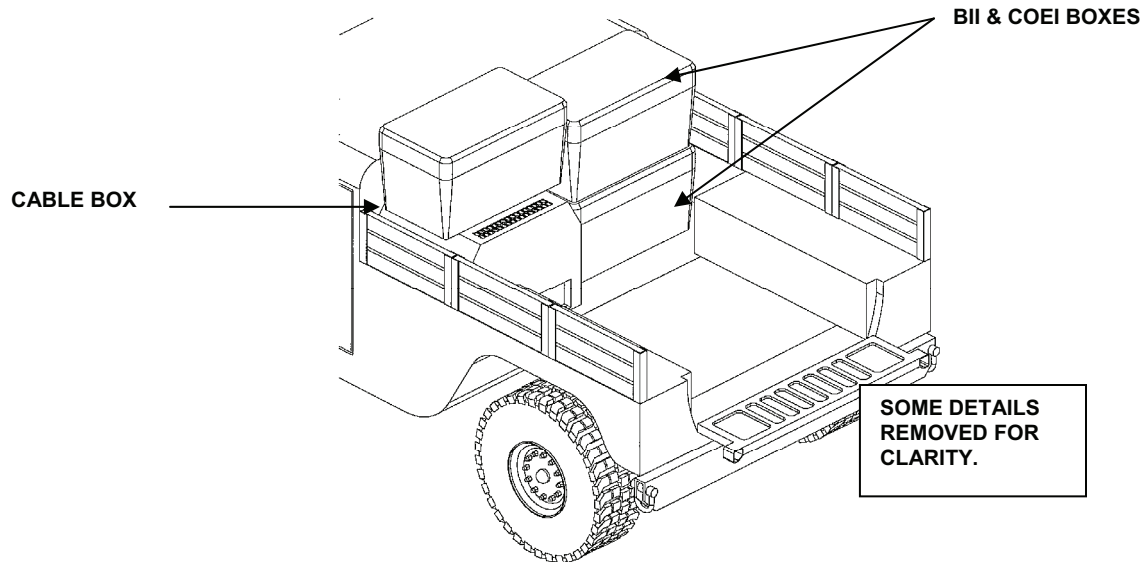

Figure 7. Loading COEI and BII Boxes.
11. Load the (BII) box and Components of End Item (COEI) box on the right side (passenger's side) of the HMMWV cargo compartment. Stack one box on top of the other. See Figure 7.
12. Load the cable box on top of the 3 KW TQG. See Figure 7.
14. Place the settling tank on the top of the cable box. Place the product tank on top of the BII (or) COEI box. See Figure 7.